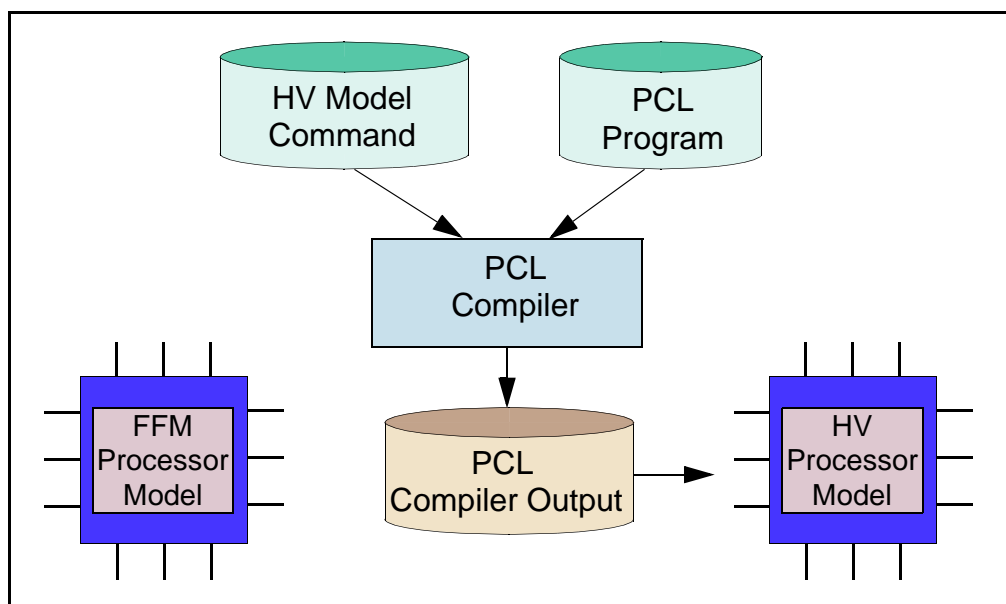

Figure 14: Data Flow for Processor Models
There are two basic types of processor models: full-functional and bus-functional. Full-functional models (FFMs) execute instructions loaded in the memory models within the design being simulated. Bus-functional models (BFMs) execute commands from an external source. A further distinction is that there are two different technologies used to develop BFMs. One is Hardware Verification (HV) models, which you control using an external program written in Processor Control Language (PCL). The other is FlexModels, which you can control using VHDL, Verilog, or C. BFMs represent device behavior by simulating bus cycles, rather than by executing assembly language instructions. Figure 14 illustrates the data flow for configuring FFM and HV processor models. For information on using FlexModels, refer to the FlexModel User's Manual.